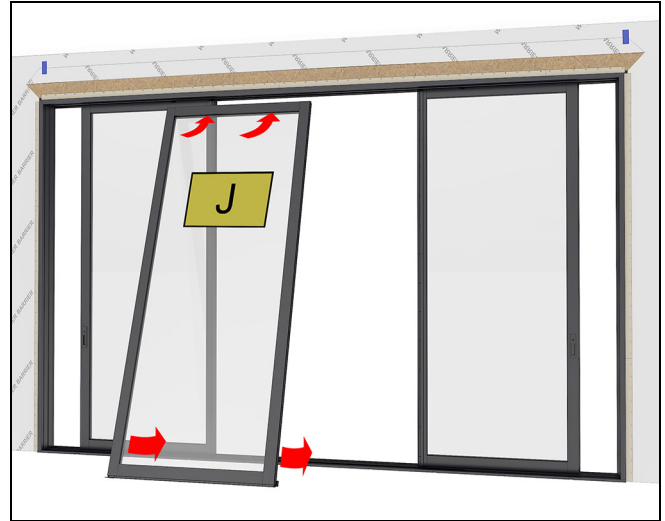
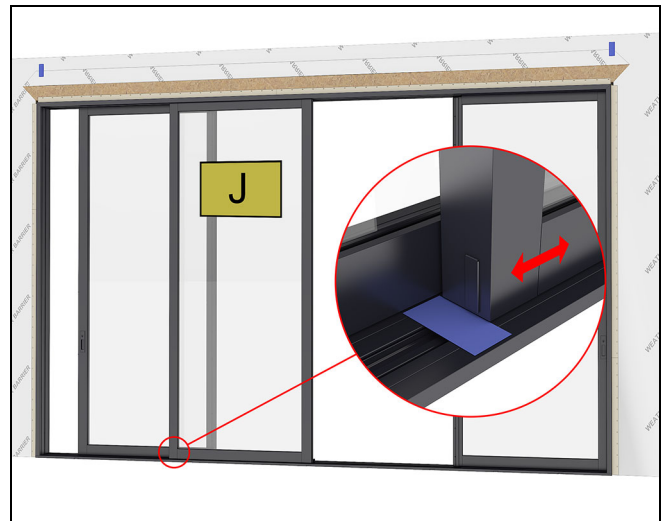

Figure 164 XOOX
Figure 165
8. Install the (J) stationary panel. Line up the left outside edge of the panel with the left mark made on the sill earlier in step 3 on page 48. See Figure 164 and Figure 165